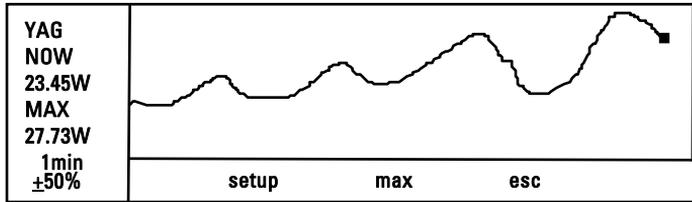

Figure 5
4.4.2.3 Tune (see Figure 5)
You can now use the tune screen to adjust and maximize your laser power. (Figure 5). Note that you can not only see the trend, but also see if you have already reached a higher value before. The numbers on the left side show you the present power reading as well as the highest one reached till now. Press "max" to reset the maximum reading to the present time. Now measure the power of the laser and adjust the laser until you determine that the power has reached a maximum.